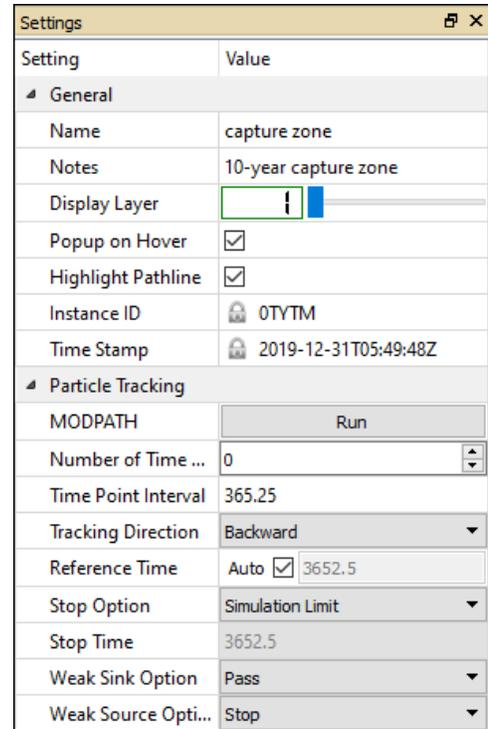

Figure 16. The Settings window of a MODPATH instance
2. Click on the newly added “Instance” and set the following values in the Settings window (Figure 16). Keep other default settings.